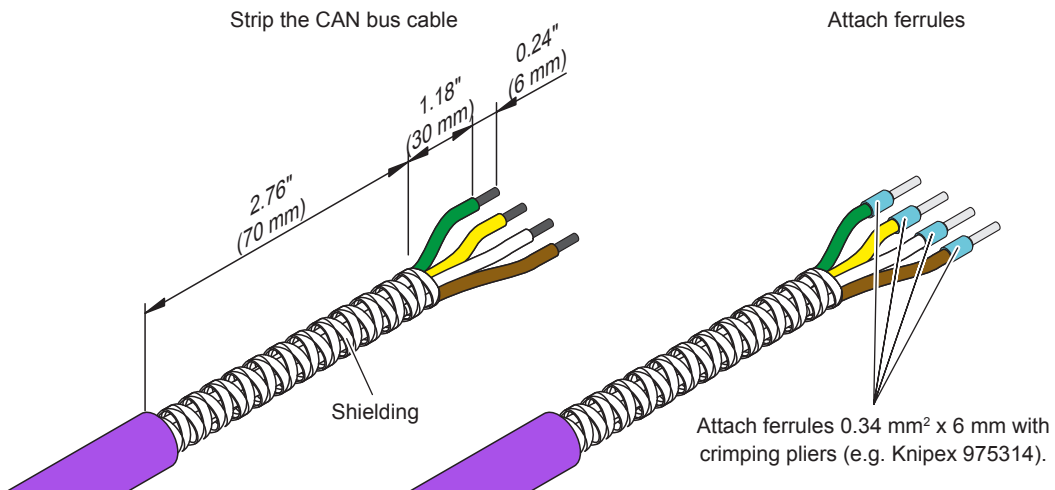

Fig. 25: Prepare cable
3. Prepare the CAN bus cables for connection to the socket according to Fig. 25.